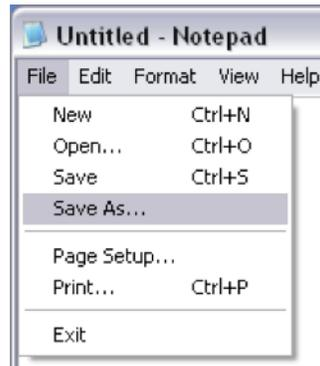

Figure 4.41 Screenshot of accessing the Save As feature in Notepad.
4.4.3.5 Go to the “File” menu and select “Save As...” within the Notepad editor as seen in Figure 4.41.